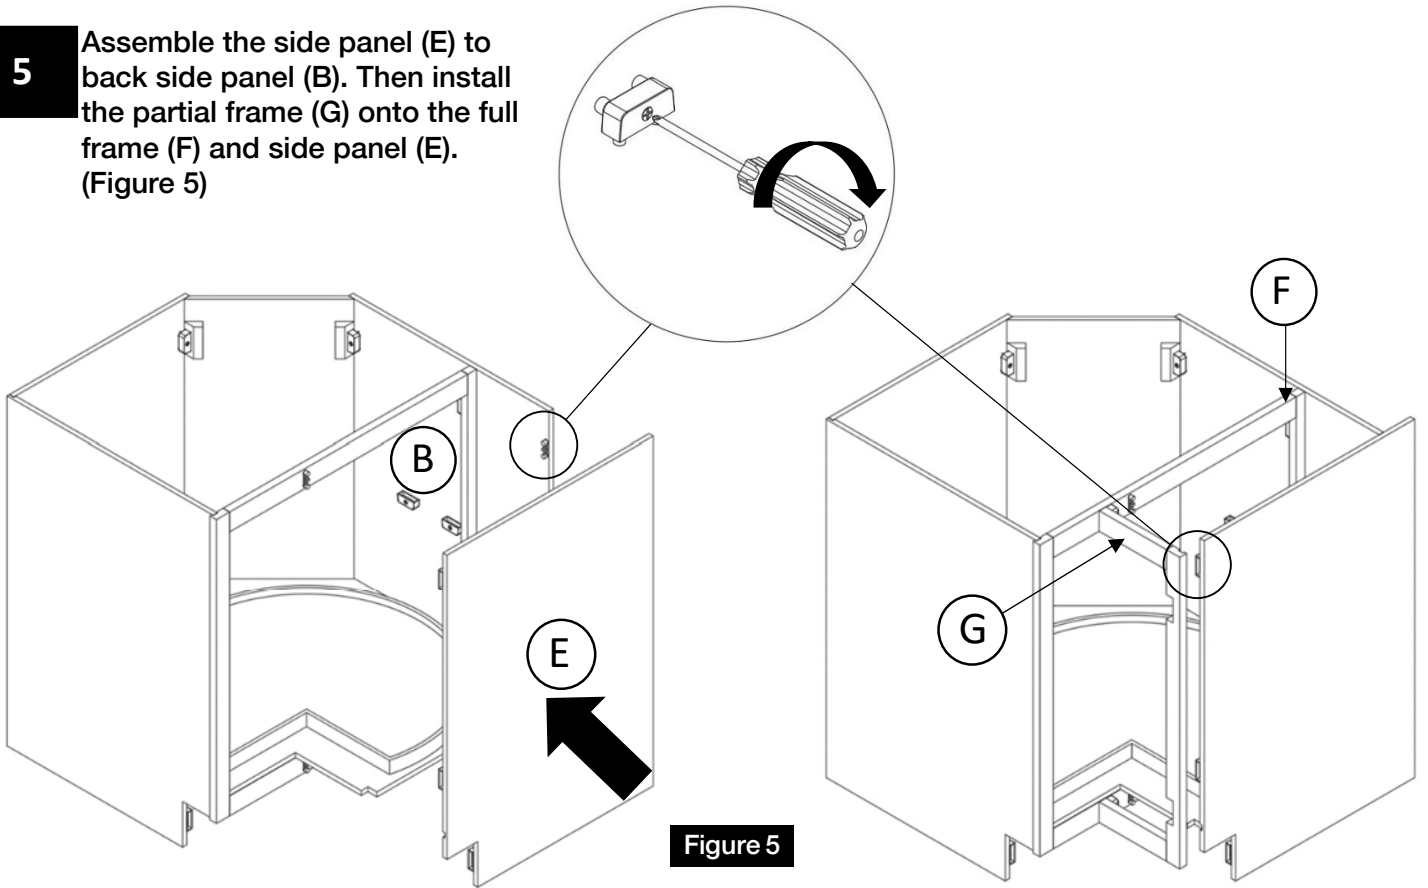

Figure 5
Assemble the side panel (E) to back side panel (B). Then install the partial frame (G) onto the full frame (F) and side panel (E). (Figure 5)